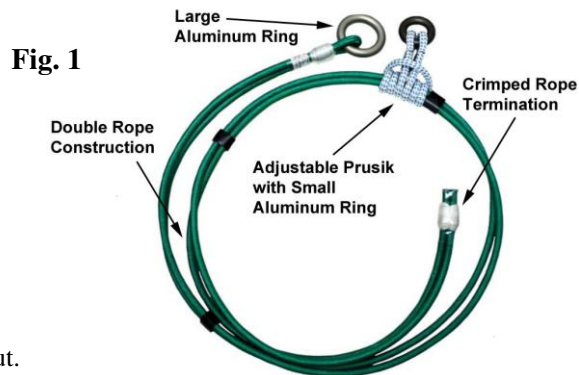

Fig. 4
- Step 1 Bend the prusik loop in half and pass the loop behind the rope of the TreeSqueeze as shown in Fig. 4.